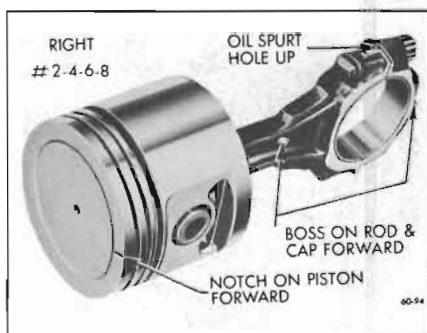

Figure 60-94—Right Bank Piston and Rod Assembly
3. If the piston and rod assembly is to be installed in the right bank, the assembly must be made as shown in Figure 60-94.